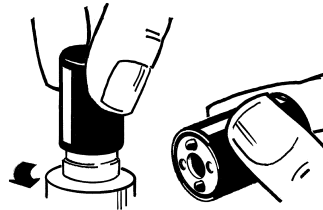

FIGURE 4-4 Removing Membrane Support
4. Remove the membrane support using the membrane support tool (Figure 4-4). Insert both tool prongs into the two holes in the membrane support, and turn counterclockwise (left) to remove the support.